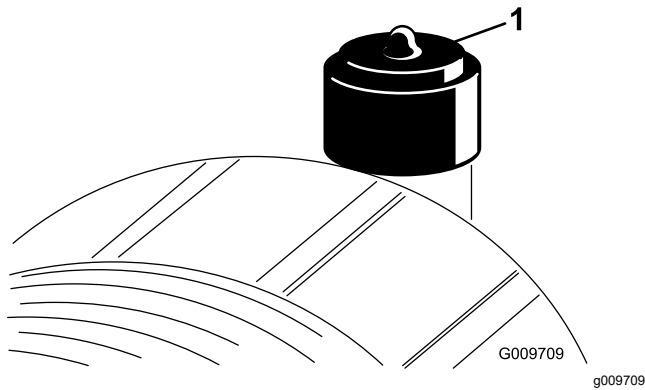

Figure 44
Service the air-cleaner filter only when the service indicator (Figure 44) requires it. Changing the air filter before it is necessary only increases the chance of dirt entering the engine when you remove the filter.
2. Reset the indicator (Figure 44) if it shows red.